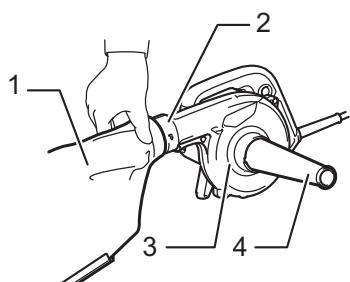

Fig.4
- Fig.4: 1. Dust bag 2. Blower outlet 3. Suction inlet 4. Nozzle